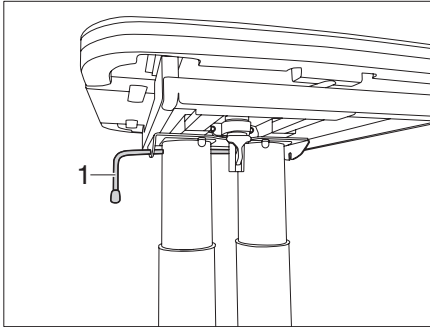

Fig. 61 Lock the table
- ▶ Swivel the catch lever (Fig. 61,1) to the right. The lift-off table is locked.
- ▶ Release the locking lever (Fig. 61,1).
- ▶ Swivel the catch lever (Fig. 61,1) to the left. The lock is open.